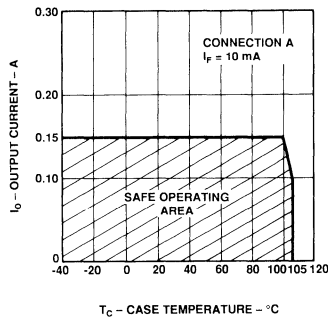
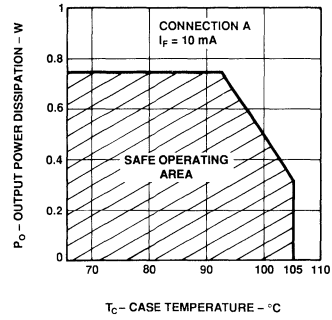

Figure 2B. Maximum Average Output Current Rating vs. Case Temperature.
Figure 3. Output Power Derating vs. Case Temperature.
2. For derating, see Figure 3. The output power P_O derating curve is obtained when the part is handling the maximum average output current I_O as shown in Figure 2.
Derating curves are shown in Figures 2 and 3. Figure 2 specifies the maximum average output current allowable for a given ambient or case temperature. Figure 3 specifies the output power dissipation allowable for a given case temperature. Above a case temperature of 93°C , the maximum allowable output current and power dissipation are related by the expression $R_{SS} = P_O(\text{max}) / (I_O(\text{max}))^2$ from which R_{SS} can be calculated. Staying within the safe area assures that the steady state junction temperatures remain less than 125°C . As an example, for a case temperature of 100°C , Figure 3 shows that the output power dissipation should be limited to less than 0.5 watts. A check with Figure 2B shows that the output current should be limited to less than 150 mA. This yields an R_{SS} of 22Ω .